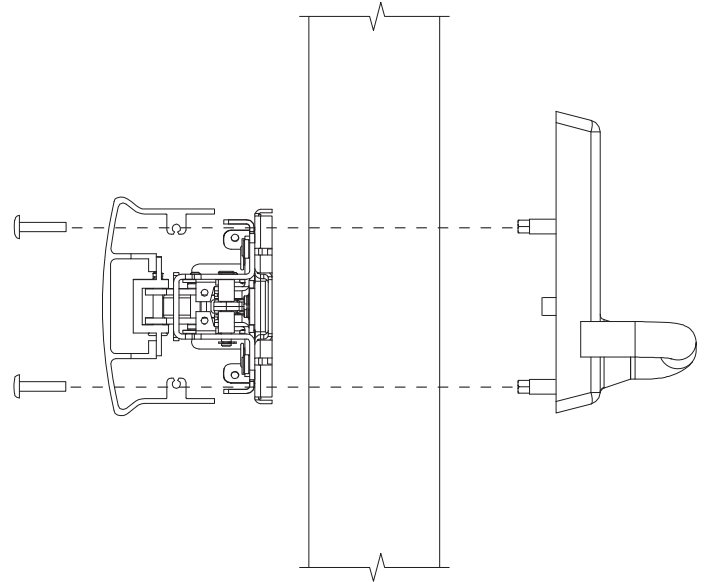

Figure 4-2
- If outside trim is used, bolt through to trim (see Figure 4-2 and trim installation instructions).